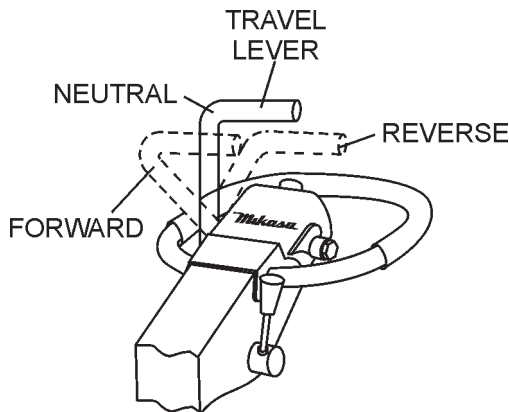

Figure 21. Travel Lever
- To make the compactor move in the forward direction push the travel lever ( Figure 21) forward.
- To make the compactor move in the reverse direction pull the travel lever ( Figure 21) backwards.